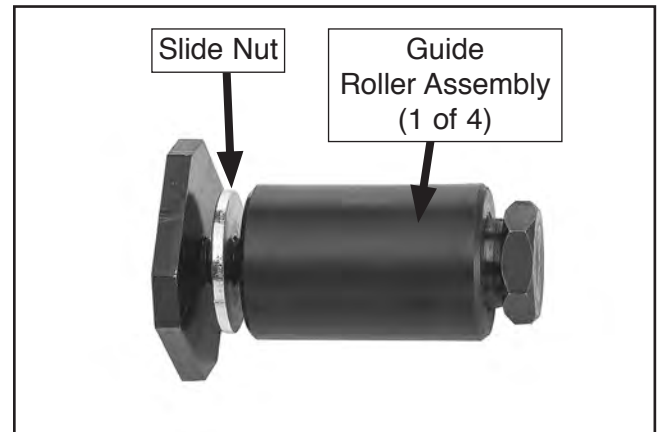

Figure 28. Guide roller assembly and slide nut (1 of 4).
- Remove slide nut from each of four guide roller assemblies (see **Figure 28**).